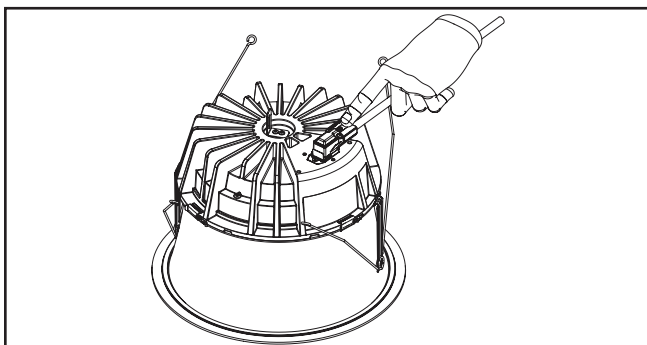

Figure 39.
7. Properly align the connector as shown in (Figure 39). Plug in the luminaire quick disconnect on the module.